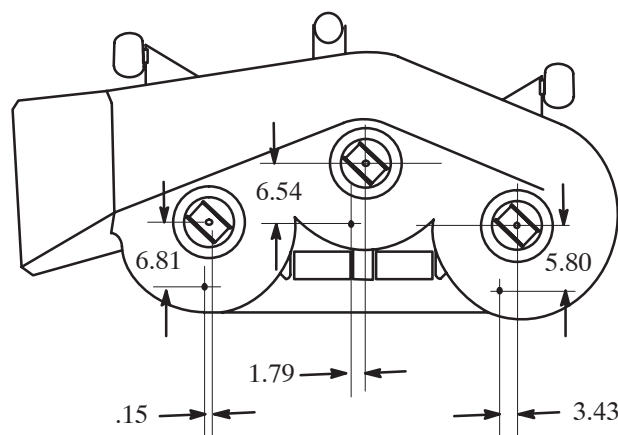

Figure 1
2. On Groundsmaster mowers, use the dimensions shown in figure 1 to locate, mark and drill (3) .344" dia. holes thru the top of mower deck.